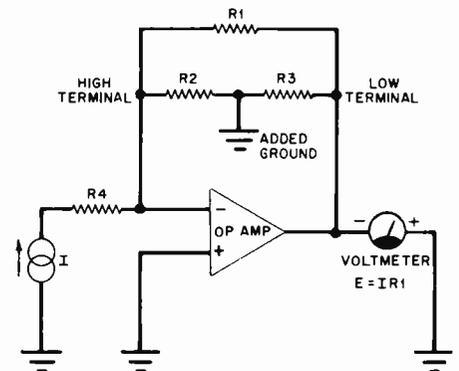

Fig. 4. An inverting op-amp circuit that can be used for in-circuit resistance measurements.
**The Inverting Amplifier** shown in Fig. 4 is another op-amp circuit that can be used for in-circuit resistance meas-
urement. One well-known property of the inverting amplifier is that its voltage gain equals the ratio of the feedback resistance to the input resistance. In the in-circuit measurement application shown in Fig. 4, the component whose resistance is to be determined ( $R1$ ) functions as the feedback resistance. Resistor  $R4$  behaves as the stage's input resistance. If the input resistance is a stable, known value, the op amp's output voltage is proportional to the feedback resistance.
Fig. 4. The thermistor is part of a bridge that drives comparator IC1A. When this comparator turns on (detected temperature below preset), it activates a LED and an audible alarm.
**Circuit Operation.** The circuit is shown in Fig. 4. At a temperature of 32° F (0° C), the thermistor called for in the Parts List has a resistance of approximately 2.8 kΩ. Thus, at 32° F, pin 3 of op amp IC1A is just under 6.8 volts (assuming the vehicle's electrical system is delivering about 13.6 volts when the generator is operating).